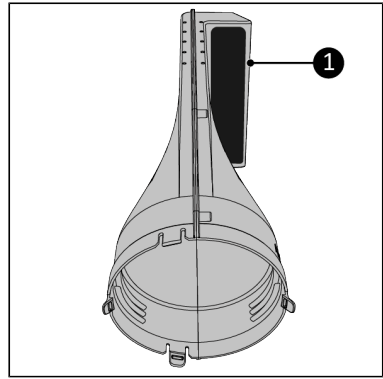

Figure 69.
- Place the Way-out in front of you. Make sure the round opening is facing towards you (Figure 69).
- Make sure the air outlet (Figure 69, pos. 1) is pointing to the right.